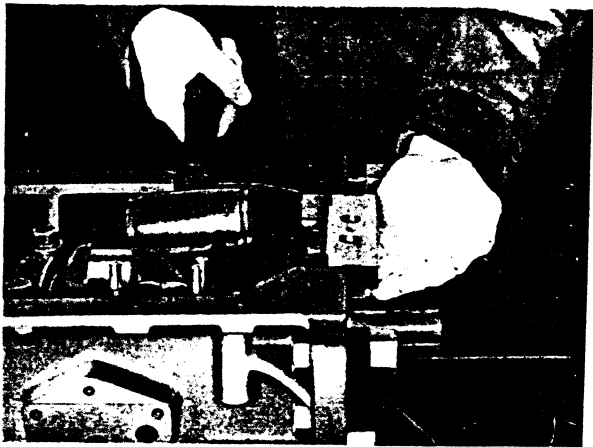

FIG. 42
4. Tap off sealing block, using hide faced hammer, as shown in Fig. 42.